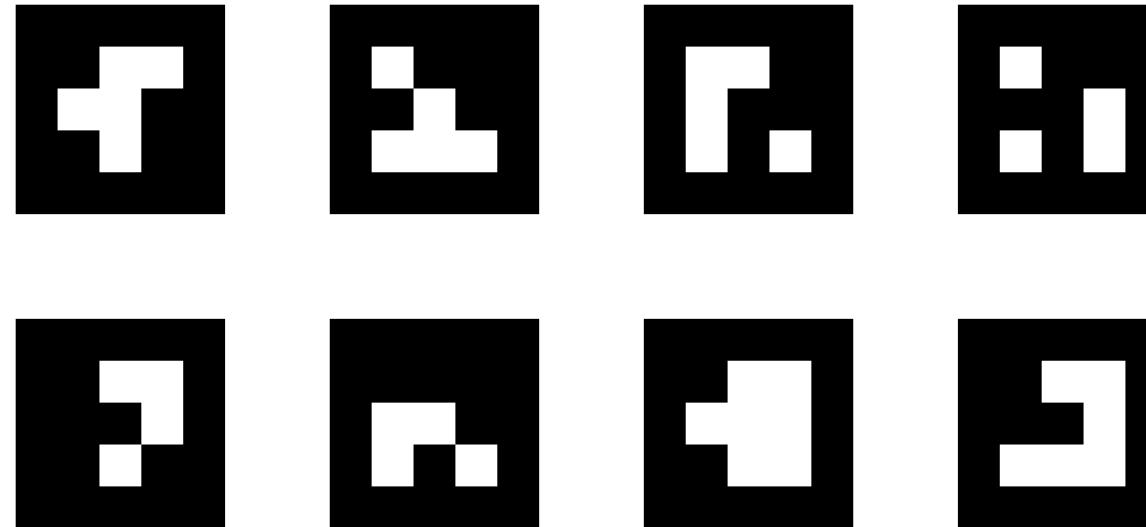

Figure 7: AruCo markers for cars and coordinate frame.
- Print the markers in Fig. 7 on a snow-white, 80 grams paper.